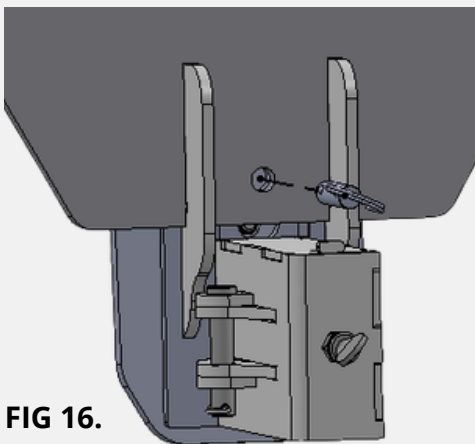

FIG 16.
4. Set the silhouette onto main support, secure with 1" quick pin, see Fig. 16